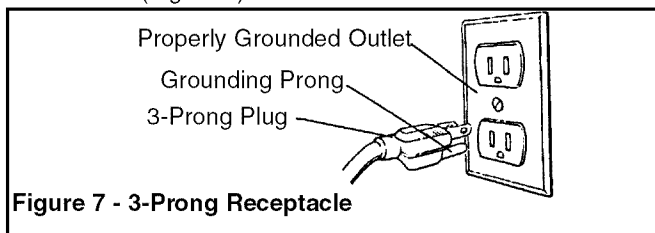

Figure 7 - 3-Prong Receptacle
Refer to Figures 7, 8 and 9, pages 4 and 5.
- This tool is equipped with an approved 3-conductor cord rated at 150V and a 3-prong grounding type plug (Figure 7) for your protection against shock hazards.
- Grounding plug should be plugged directly into a properly installed and grounded 3-prong grounding-type receptacle, as shown (Figure 7).